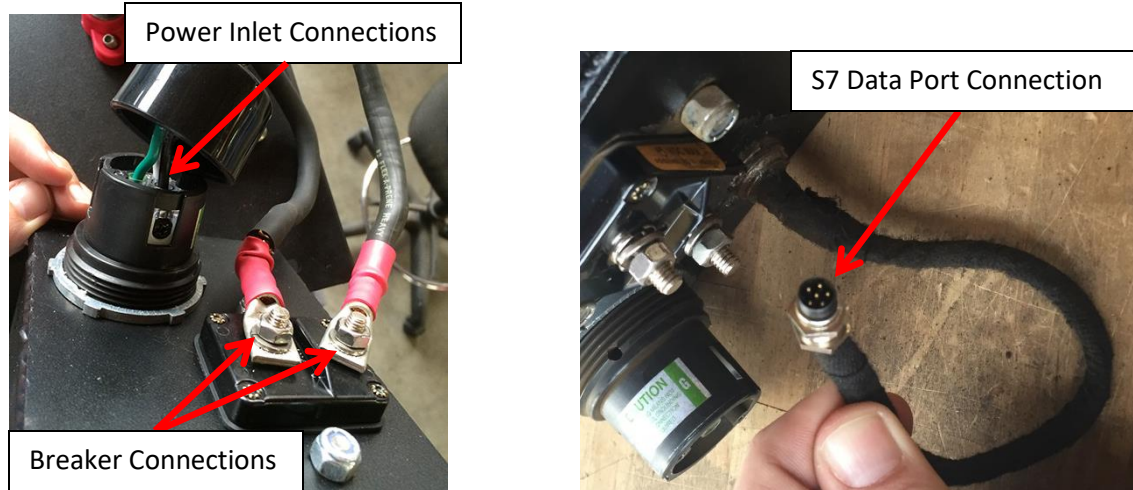

Figure 2: The back of the cable storage box showing the connections to the breaker, power inlet, and data port.
2. Pull the cable storage box out of the case. To completely disconnect it, remove the connections to the breaker and the power inlet shown in Figure 2. Wrap tape around the ends of the breaker cables to prevent unintentional powering of the pack. The LiFT Pack S7 has a data port which must also be disconnected.